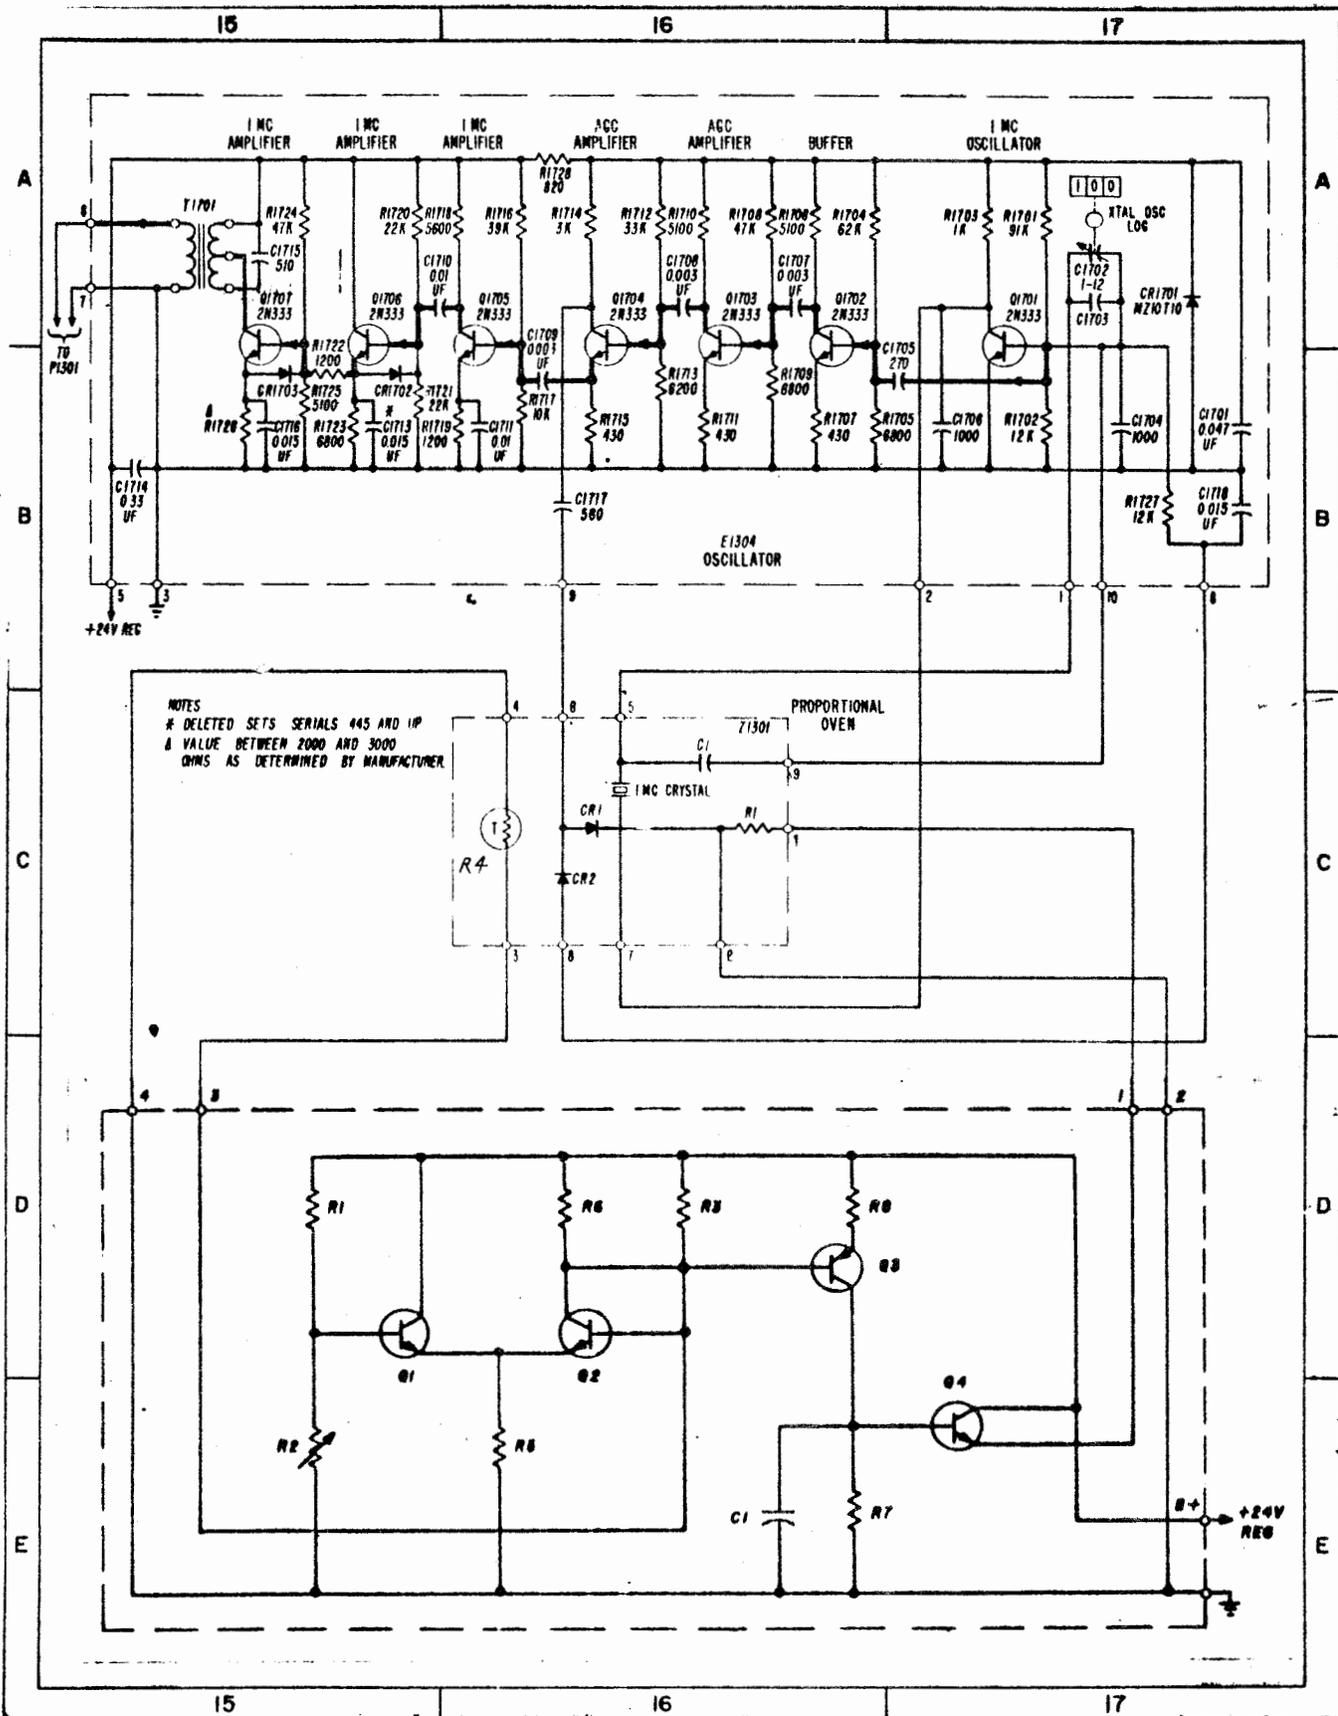

Figure 6-27C. Electrical Frequency Control C-2764/WRT-2, One MC Oscillator, Schematic Diagram, Sets Serials A1-A178, D1-D327.
C. Proportional Oven and Oven Control Unit (Location C-10) are not applicable to Serial Numbers A1 through A178, D1 through D-327. Refer to T-6 (Figure 6-27C) as corrected by this change.
20. Page 6-54C/D, Figure 6-27B. Z1302 Oven Control schematic not applicable to Serial Numbers A1 through A178, D1 through D327. Both Z1301 and Z1302 are sealed units and are only repairable by the manufacturer. The Oven and Control Unit must be replaced as a matched set. See the schematic figure 6-27C for reference only. Add NOTE on field of schematic as follows: "For schematic of Z1301 and Z1302 applicable to Sets, Serial Nos. A1 through A178; D1 through D327, see T-6."